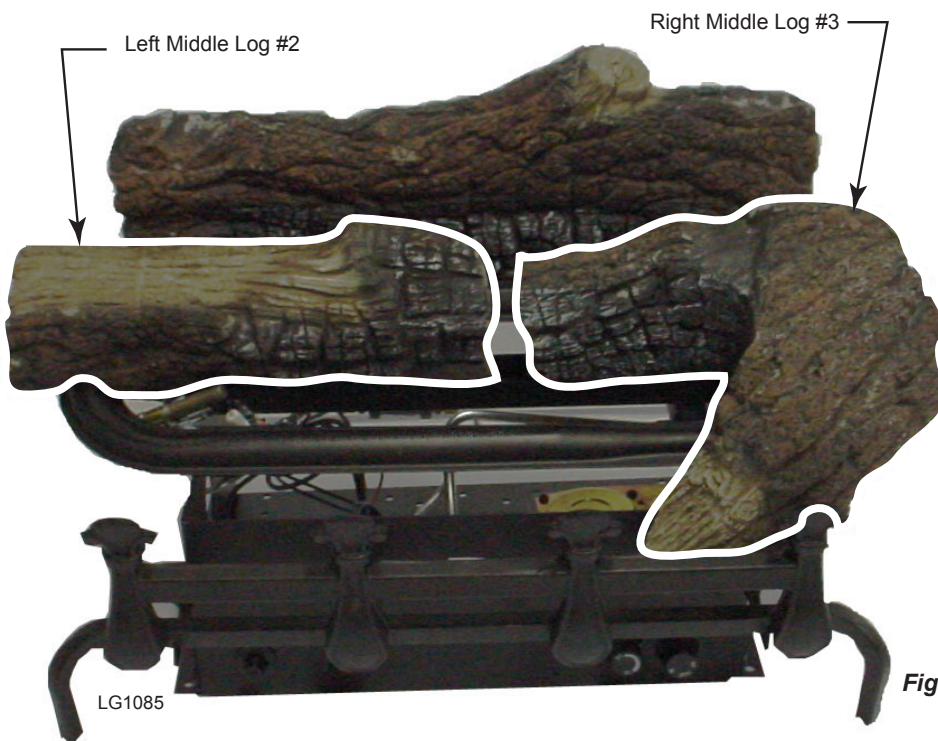

Figure 17
2. Place Left Middle Log (#2) on middle support and burner. *Figure 17*
3. Place Right Middle Log (#3) on middle support. *Figure 17*